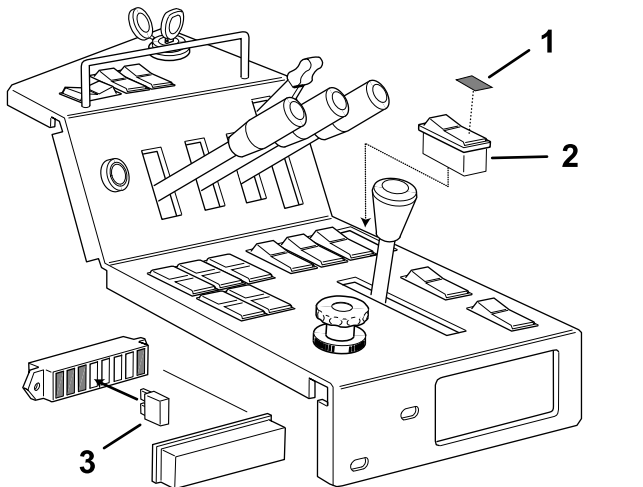

Figure 4
4. Remove a plug from behind the parking lever, and install the beacon switch into the opening (Figure 4).
7. Remove the fuse box cover and connect the fuse (10 A) next to the fuse (3 A) as shown in Figure 4.